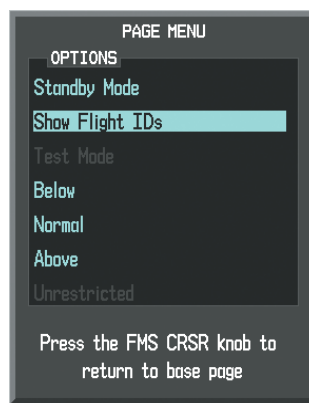

Figure 6-92 Traffic Map Page Menu
- 2) Turn the small **FMS** Knob to select 'Show Flight IDs' or 'Hide Flight IDs' (choice dependent on current state) (Figure 6-92).